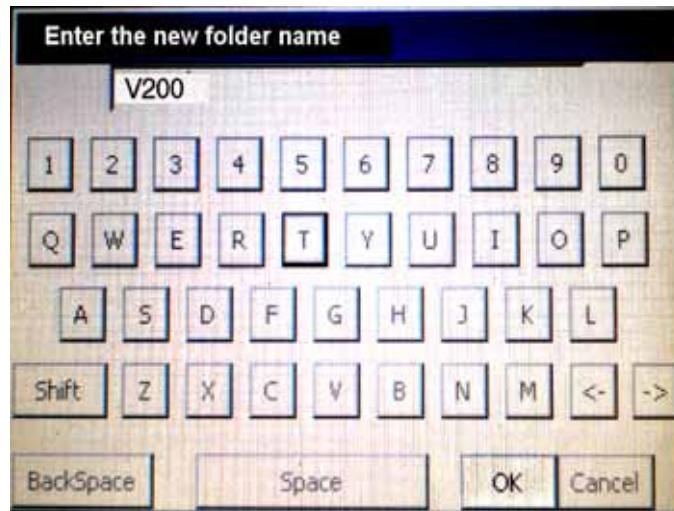

Figure 8-11: New Configuration Screen
6. Enter either **Esprit** or **V200**, and then touch OK (refer to Figure 8-11).